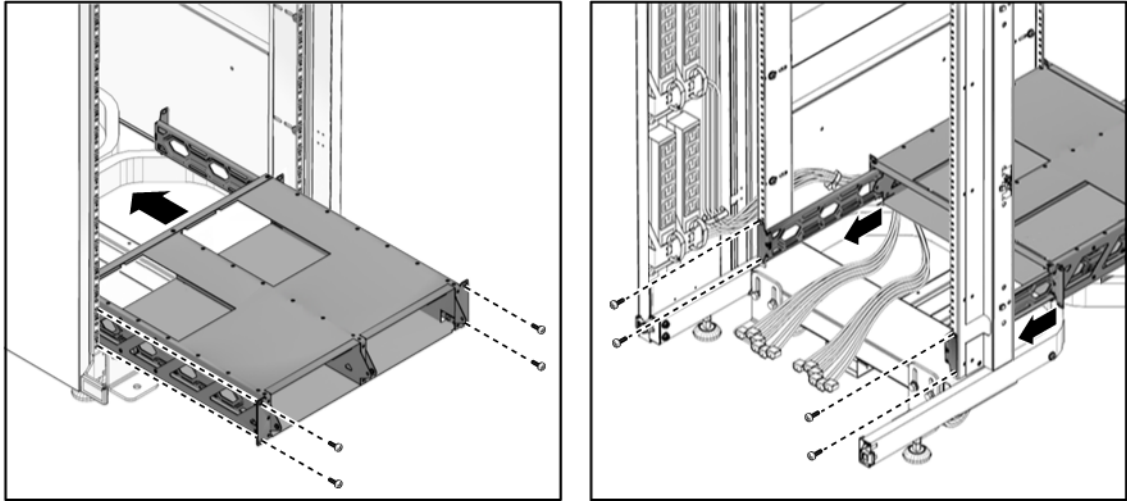

FIGURE 2-7 Installing the Modular Power Supply Carrier
2. Using four screws, secure the modular power supply carrier to the front of the rack (FIGURE 2-7).